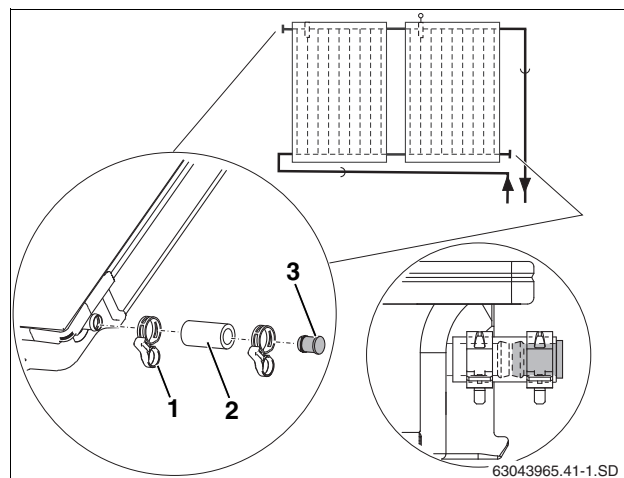

Fig. 37 Installing the dummy plug and hose clamps
- ▶ Install 2-3/16 in (55 mm) solar hoses (Fig. 37, [2]) including the preassembled dummy plug onto the two free connections on the collector array.